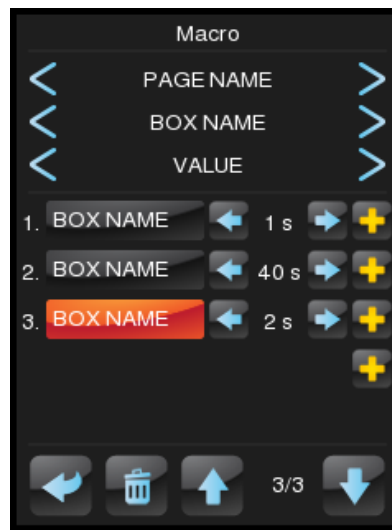

Figure 129 Macro Pop-Up
- **Right button:** opens up the macro configuration panel3 (Figure 129).